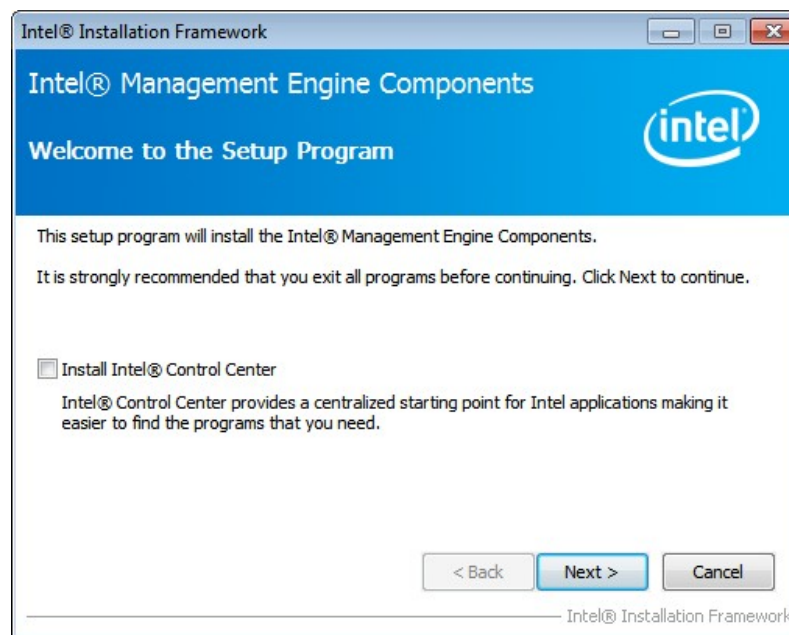

Figure 6-28: Intel® ME Driver Welcome Screen
Step 4: When the setup files are completely extracted the **Welcome Screen** in **Figure 6-28** appears.